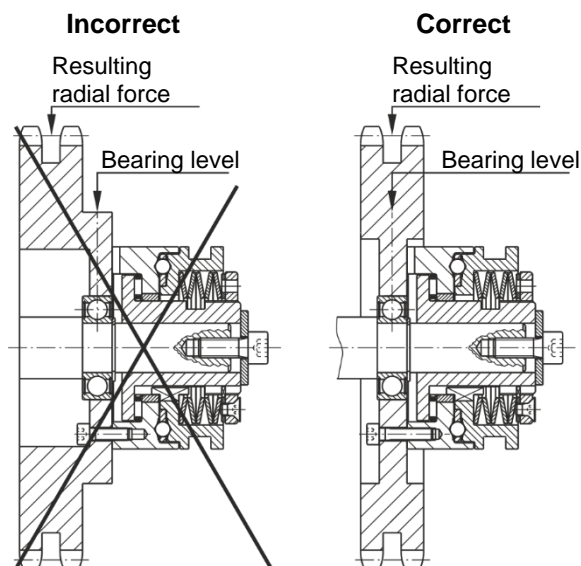

Fig. 5
- ❑ The resulting radial force on the drive element should be on the bearing level in order to avoid tilting of the drive element and therefore the pressure flange (2) (Fig. 5).